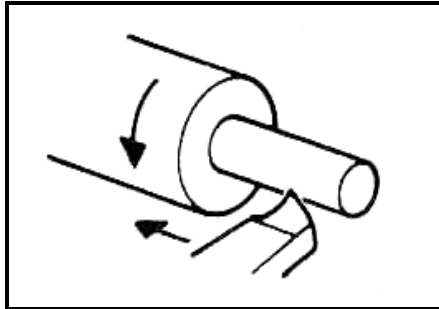

FIGURE 1.3
1.8 Which lathe operation is shown in FIGURE 1.3 below?